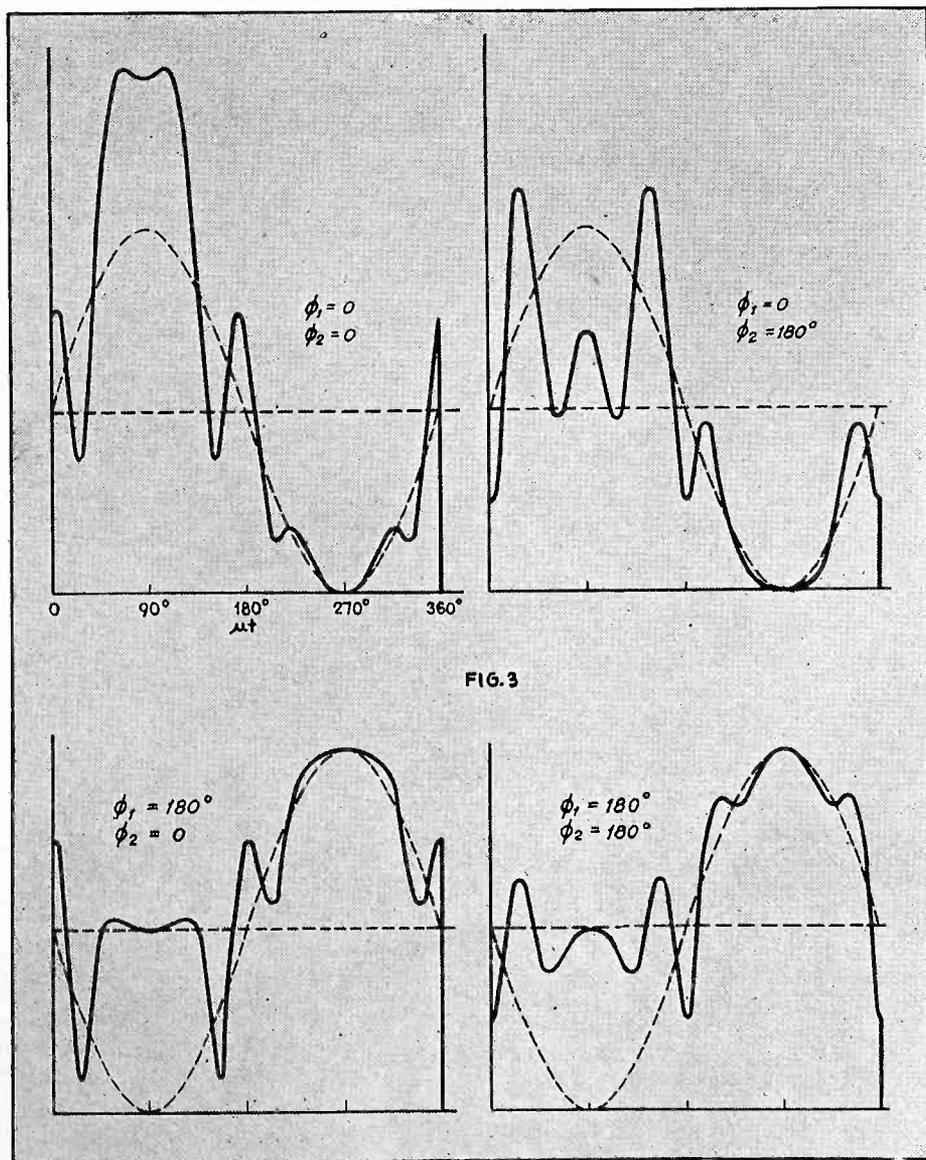

Fig. 3—Envelopes of amplitude modulated signal with (solid) and without (dotted) noise superimposed
The noise voltage is likewise in two parts, N and $N \sin \mu t$, but since it is both frequency and amplitude modulated, is performing a pendulum motion while contracting and expanding. The instantaneous phase angle, which measures the pendulum motion, is $n \sin \mu t$ radians, the phase changing from $+n$ to $-n$ radians $\mu/2\pi$ times per second. The length of the noise vector expands to $2N$ and contracts to zero, $\mu/2\pi$ times per second. During one audio cycle, the end of the noise vector $N(1 + \sin \mu t)$ describes a spiral. The vector addition of both the noise and desired signals yields the resultant signal R , which may be plotted versus time over one audio cycle, thus giving the desired envelope of Eqs. (1) + (2). Figure 3 shows the resulting envelopes for various values of the angles ϕ_1 and ϕ_2 , under the conditions that $N = S/2$ (noise amplitude one half of signal amplitude) $K = 1$ (100 per cent modulation of signal carrier) and $n = 7$ radians (as above). The heavy lines in Fig. 3 give the resultant envelope, the dotted lines the undisturbed signal envelope. It is evident that the harmonic content of the resultant envelope is excessive, that is, that the desired signal is badly damaged if not rendered completely useless by the superposition of the noise voltage.